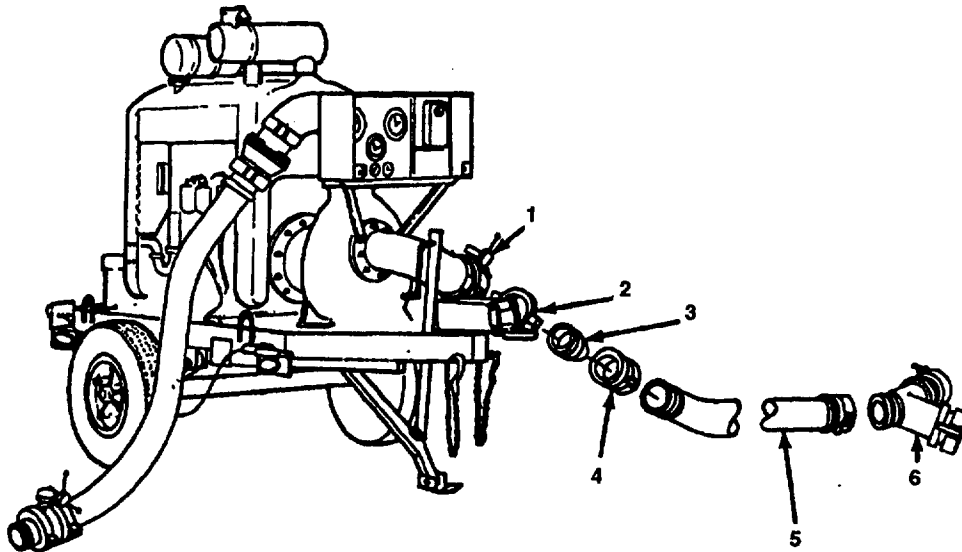

Figure 2-17. TWDS Water Source Connection Components Assembly.
- i. Wrap antiseize tape (item 9, appendix E) around threads on 6 inch coupling pipe fitting (Figure 2-17, 3). Screw 6 inch coupling pipe fitting (3) into 6 inch coupling half (4).
- j. Install 6 inch coupling pipe fitting (3) (with attached 6 inch coupling half (4)) on end of 6 inch butterfly valve (1) on suction port of 600 gpm pumping assembly using grooved-end pipe quick disconnect coupling clamp (2), unpacked from "PUMP STATION" crate, (para 2.3.3.2).
- k. Locate 6 inch x 10 foot lengths of rigid-walled, wire reinforced suction hose assemblies (5) with quick-disconnect fittings.
- l. Push cam arms on 6 inch coupling half (4) forward to open position.